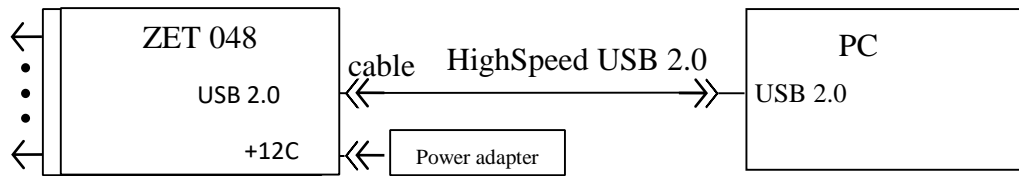

Figure 1.4. ZET 048-E connection to a PC via USB 2.0 interface
1.6.2.2.1 The Recorder shall be connected to a PC via High Speed USB 2.0 interface bus according to the electric connections diagram (Figure 1.4). Description of the Recorder operation and settings is provided in the relevant section of "Operator Manual. Part 1".